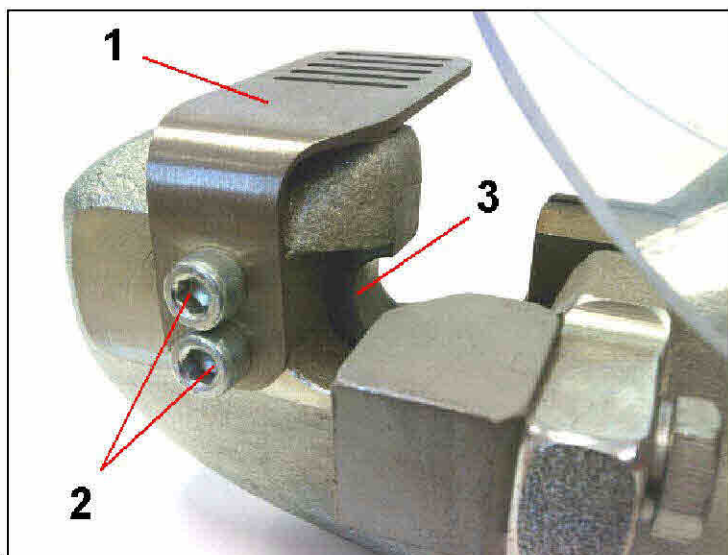

Fig. 5A
1. Loosen the lock screws (ref. 2 in fig. 5A);
2. Remove the guard (ref. 1 in fig. 5A);
3. Replace the fixed tool (ref. 3 in fig. 5A);